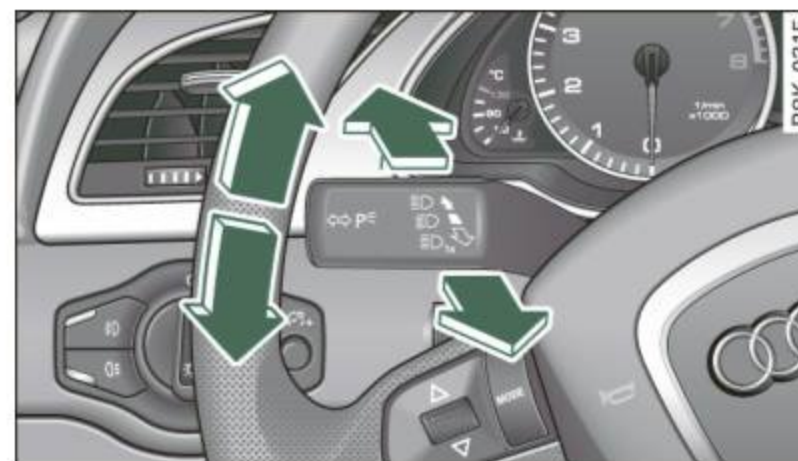

Fig. 60 Turn signal and high beam lever
- Push the lever up as far as it can go to turn on the right turn signal or down to turn on the left turn signal ⇒ fig. 60.